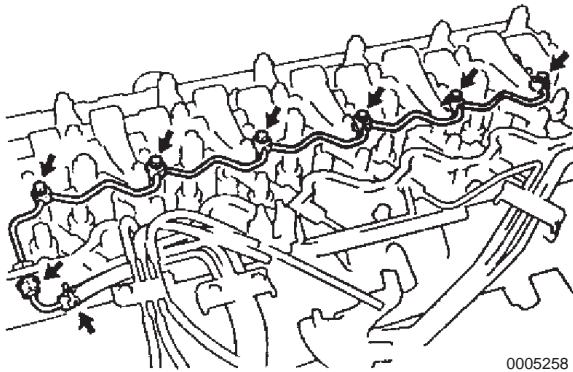

Figure 6-9
3. Remove the fuel return hose, 6 joint bolts, nut and 7 gaskets to remove the No. 1 fuel return pipe from the cylinder head (**Figure 6-9**).